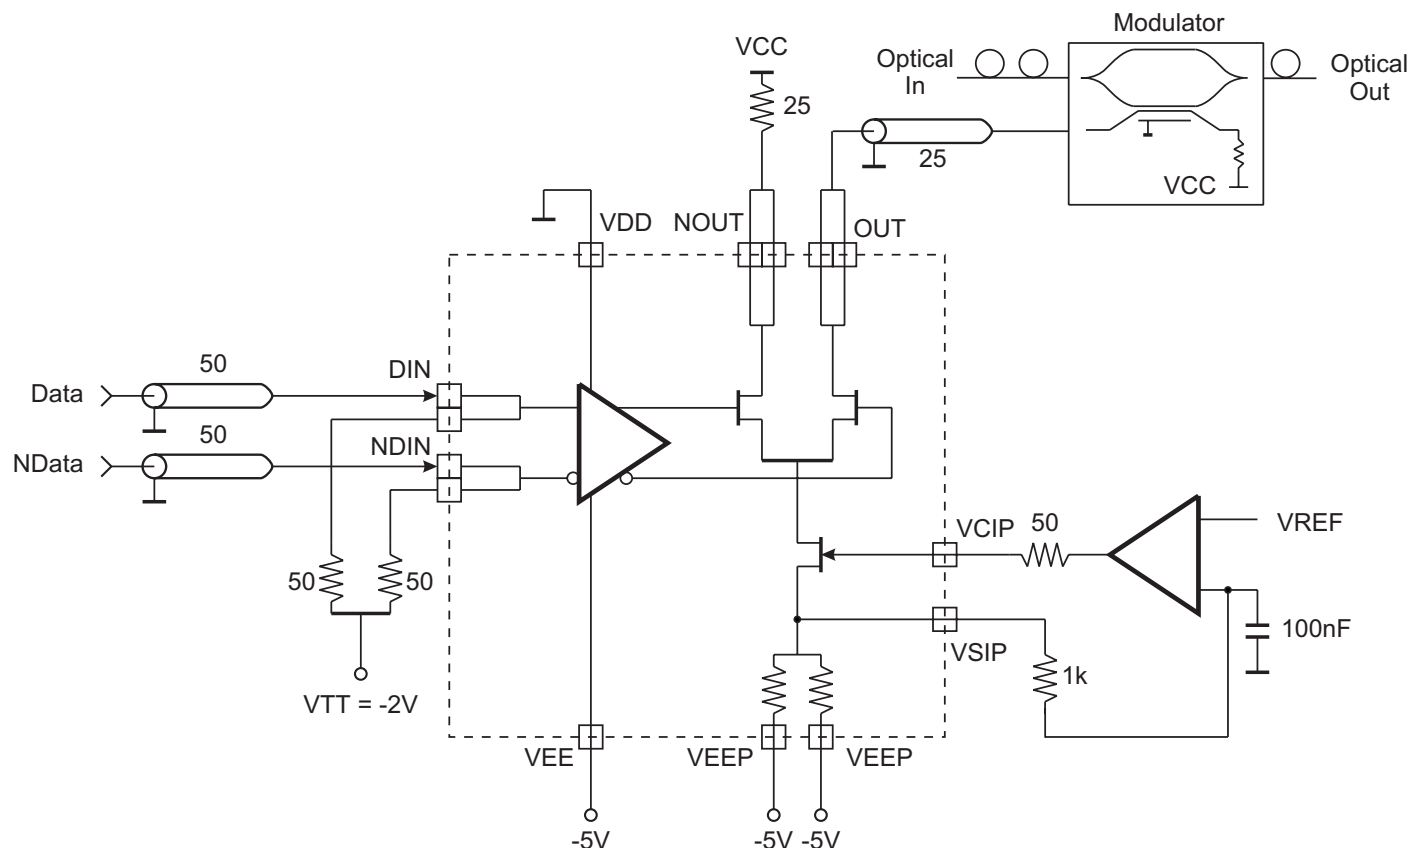
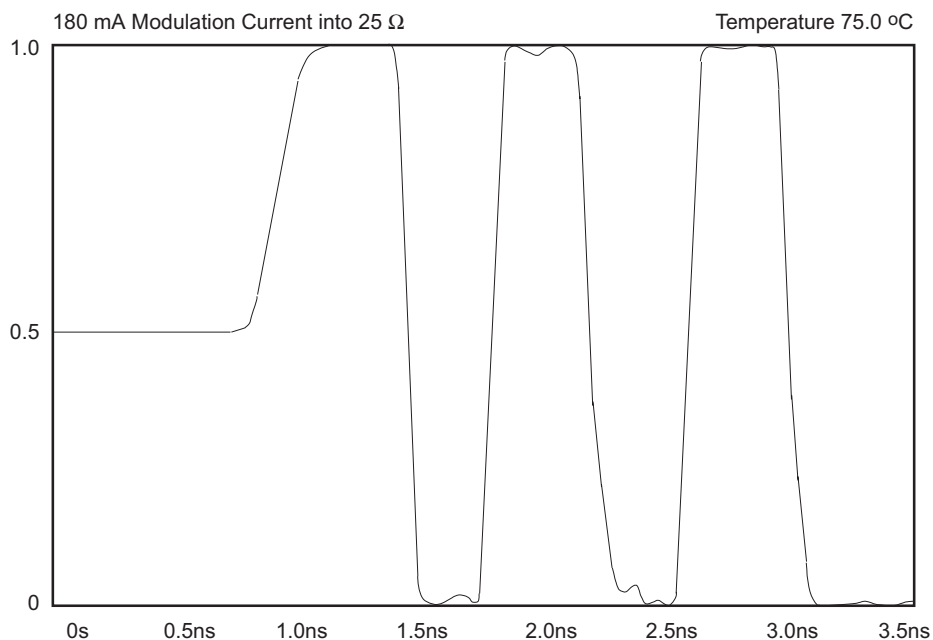

Figure 1. Application Diagram
Figure 3. Simulation of the Optical Output of the Modulator
By using an external general purpose operational amplifier, as illustrated in Figure 1, the driver output current I_{OUT} may be controlled accurately and independent of environmental changes. V_{REF} in Figure 1 should be $R_{SIP} \cdot I_{OUT}$, see above. The OP-amp must be able to drive CIP in the range $V_{EEP} - 1.2V$ to $V_{EEP} + 1.2V$.
In this section the behaviour of GD16076A is described when used in connection with a LiNbO_3 Mach Zender Interferometer, for simplicity called "the modulator". First the modulator and a transfer function from electrical to optical signal is derived. Next a SPICE simulation of the application diagram in Figure 1 is shown. In this simulation the modulator is connected to the output of GD16076A via a transmission line with a characteristic impedance of 25 Ω . Finally some thermal properties of GD16076A are considered.
The above formulas (1) and (2) were used together with the electrical equivalent diagram for the modulator to make SPICE simulations of the behaviour of GD16076A connected to an optical modulator as shown in Figure 1.
In Figure 3 a simulation of the application diagram in Figure 1 is shown. The modulation current is 180 mA. The simulation shows the relative optical output power p as defined above. As shown the optical output has little ringing. Rise and fall times are below 90 ps.
As shown in Figure 1 both the modulator and the unused NOUT outputs are terminated to V_{CC} . In order to reduce the chip power consumption it is important that V_{CC} is kept as low as possible. If e.g. the output current is 180 mA into 25 Ω the voltage swing will be 4.5 V.